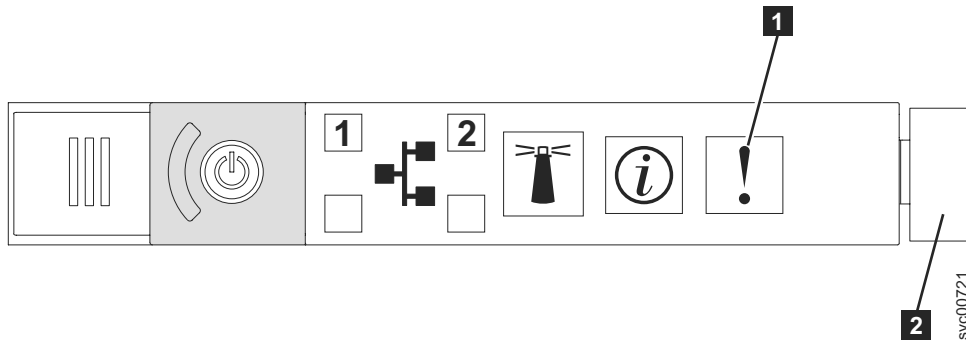

Figure 89. SAN Volume Controller 2145-CG8 or 2145-CF8 operator-information panel
1. **Is the Error LED, shown in Figure 89 on page 274, on the SAN Volume Controller 2145-CG8 operator-information panel on or flashing?**